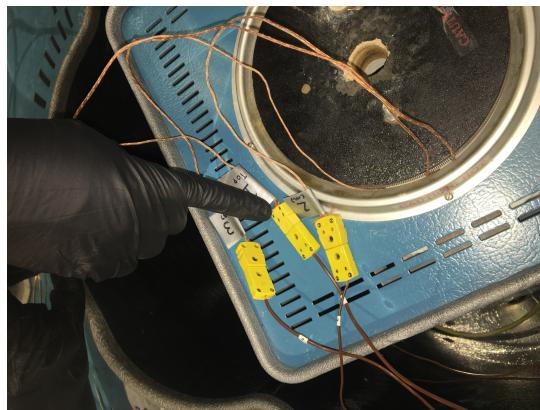

Figure 3: Thermocouple connections
7. Ensure the 4 furnace thermocouples are connected to their corresponding connectors inside the vessel and ensure that the wires are tucked down between the side of the furnace and the wall of the vessel and are out of the way (see Figure 3)